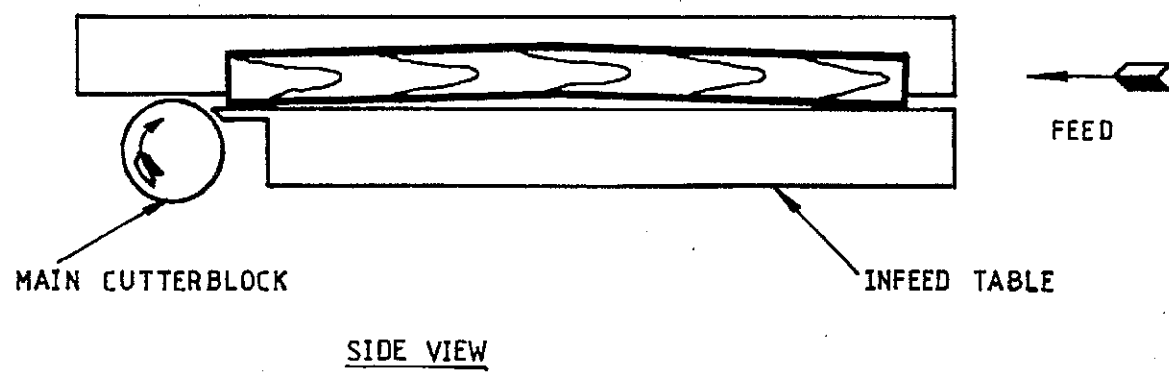
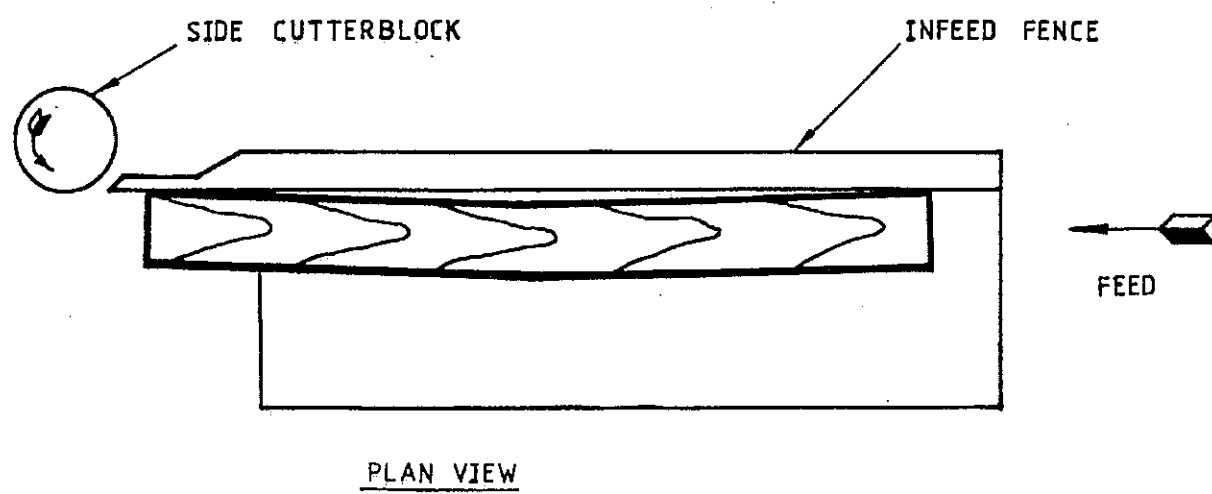

FIG.19
FIG.20
- c) To obtain a perfectly flat surface, especially with warped stock. Check timber for being hollow or round, always place hollow side against infeed table and infeed fence, see FIG. 19 and FIG. 20.